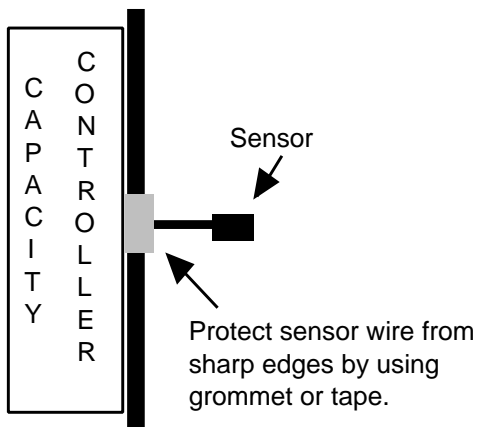

Figure 2. Capacity Controller Mounted with Sensor
- D. For the 101ALAS, TRFPC, or if mounting any other model with the sensor integral with Capacity Controller, place sensor through hole made in duct and mount Capacity Controller to duct with screws. Use grommet or tape to protect sensor wire from sharp edges. **See Figure 2.**